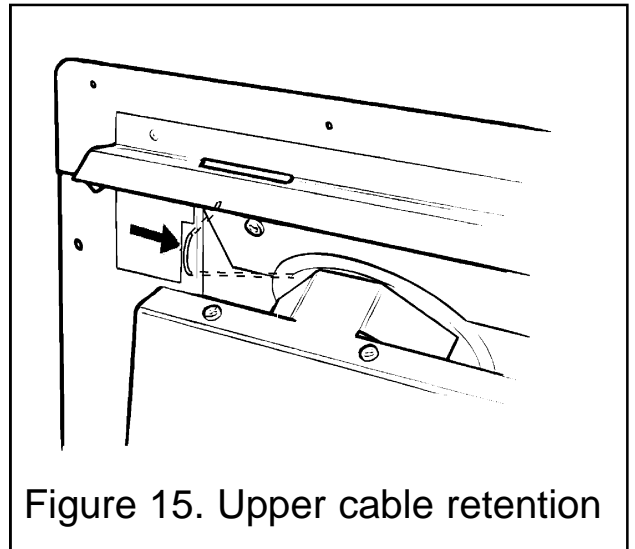

Figure 15. Upper cable retention
5. The convection box has two holes at each side of the convected air opening. Insert one end of each cable (one cable each side) from the back through the lower of the two holes and return the end through the upper of the holes. See figure 15. Give the cables a pull so that they grip against the convection box flanges.